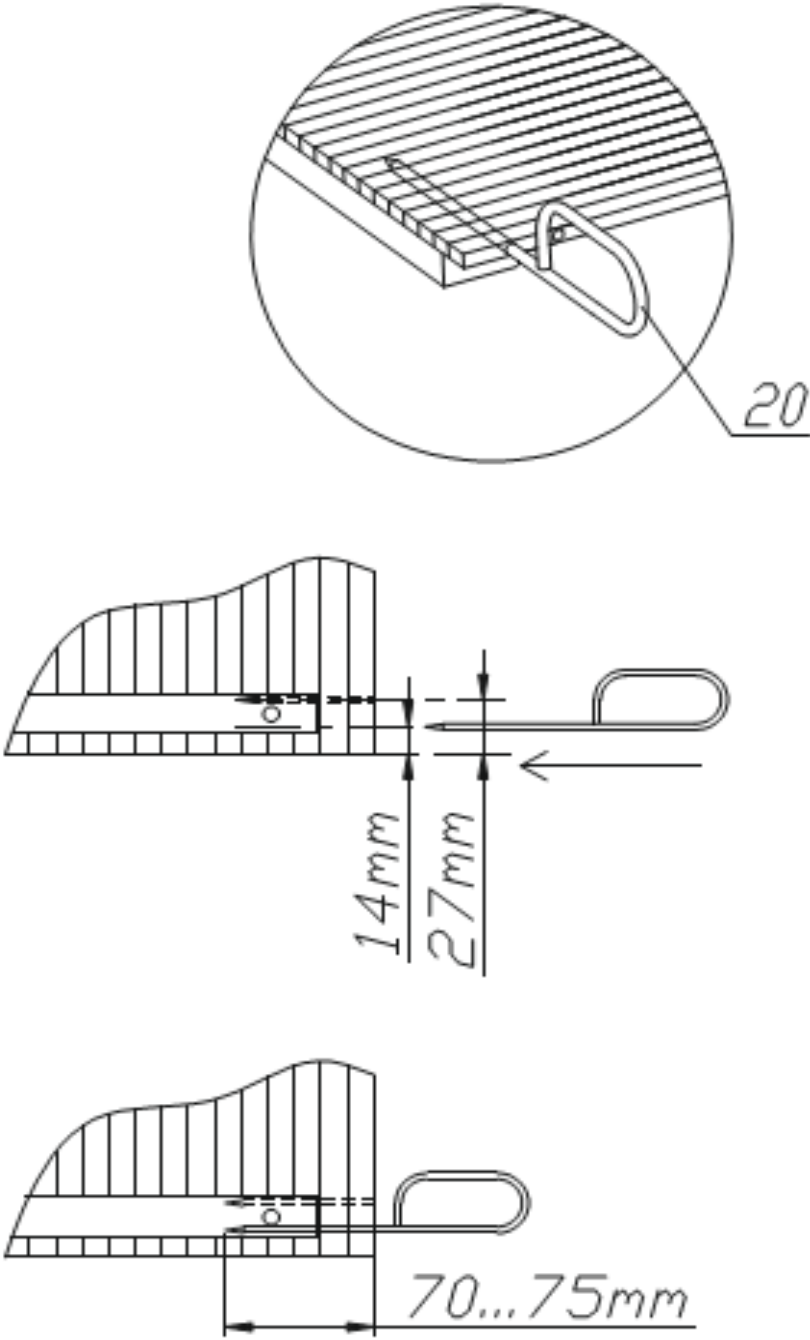

Fig. 9
5.2.2 Take the stitching awl (Position 20), pierce the polycarbonate as shown in Fig. 9.